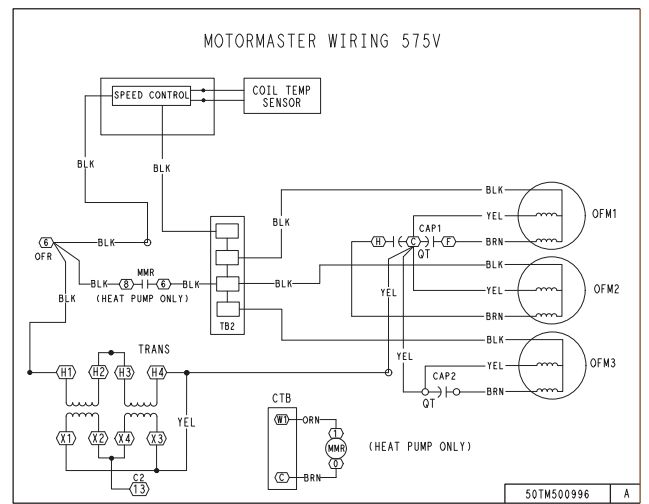
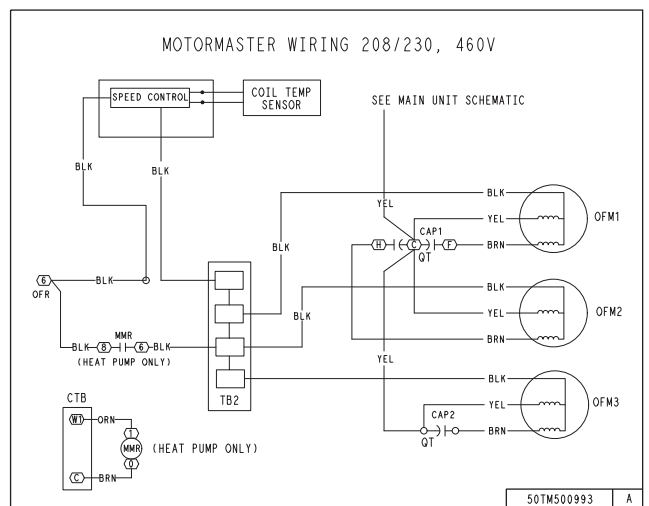

Fig. 6 - Motormaster Wiring, 575V
Fig. 7 - Motormaster Wiring, 208/230V, 460V
NOTE: The 575V to 460V transformer provided with C10413 is used as an auto-transformer (buck boost transformer), not as a traditional step down isolation transformer therefore it must be wired per Fig. 6 and the instruction listed below.
1. The updated wiring for 208/230-V and 460-V units are show on the label provided with the CRLOWAMB039A00 and 040A00 and in Fig. 7. For 575V, the label from CRTRXKIT002A00 and Fig. 6 detail the wiring changes.